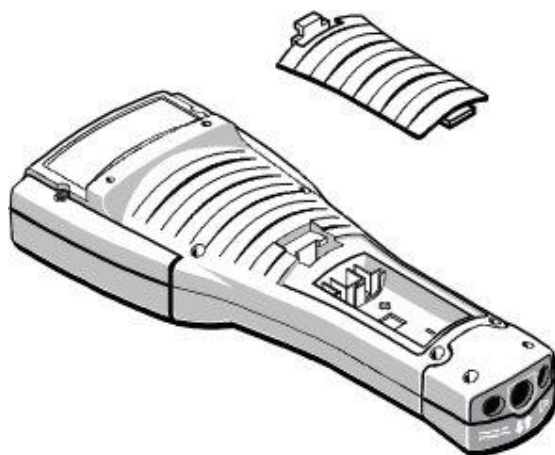

Figure 1. Replacing the Battery
1. Turn the data collector over to access the battery compartment cover as shown in Figure 1.